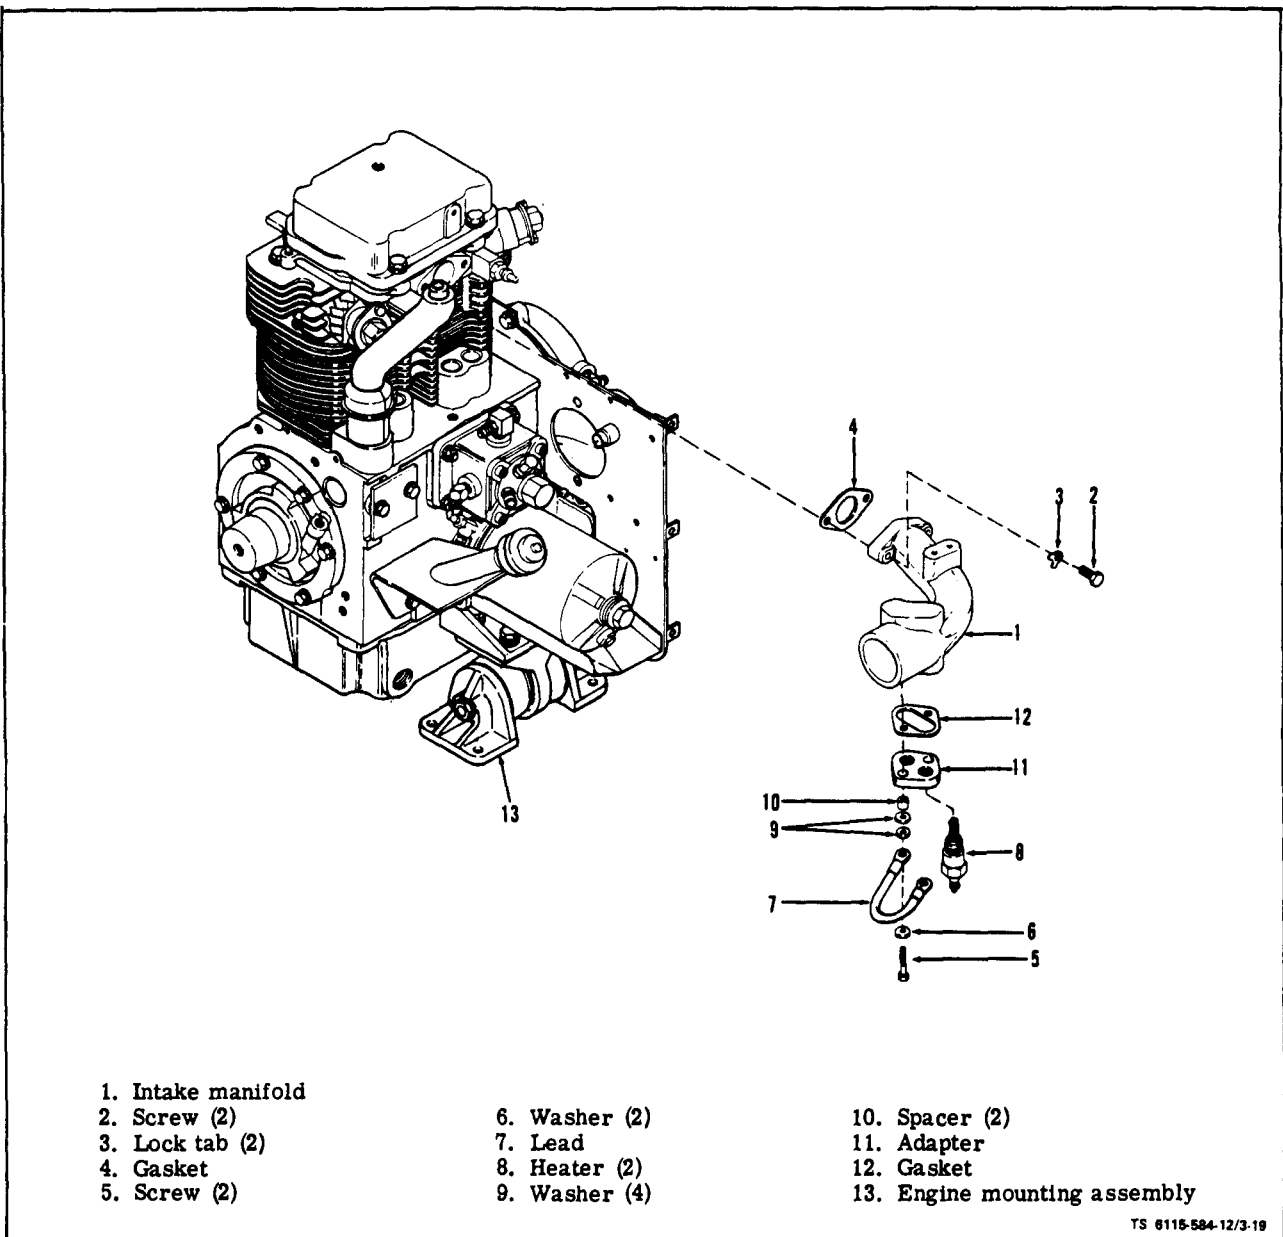

Figure 3-19. Intake Manifold Assembly
b. Intake Manifold Assembly (see figure 3-19). On ASK equipped generators, if intake manifold is suspected of possible problems, refer to higher level of maintenance. Inspect intake manifold (1) for cracks or physical damage. Check that manifold is properly secured to cylinder head and mounting screws (5) and lock tabs (3) are in place.
d. Engine Mounting Assemblies (see figure 3-19). On ASK equipped generators, remove oil access door and batteries access door. Inspect engine mounts (13) for deterioration or physical damage. Check for accumulations of dirt, fuel, or oil. Check that mounts are securely attached to engine and to skid-base with all mounting hardware in place.